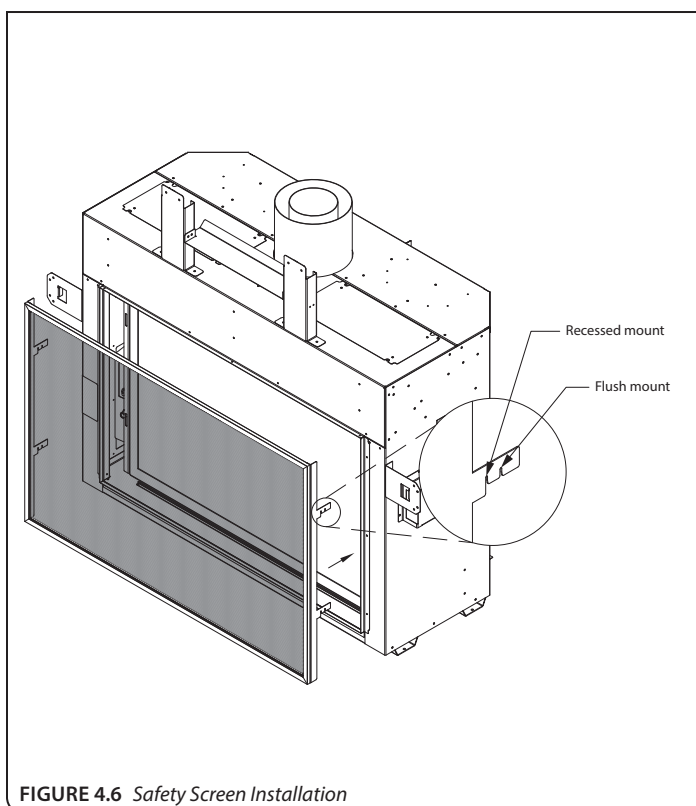

FIGURE 4.6 Safety Screen Installation
1. Locate the (4) slots ([2] on each side) located on each side of the glass valance.
2. There are two mounting options based on notched tab position. See **FIGURE 4.6** below for a flush or a recessed mount.